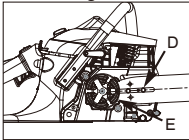

Fig. 3C
6. Place the slotted end of the guide bar over the bar bolt (D). Slide guide bar behind clutch drum (E) until the guide bar stops. (Fig.3C)